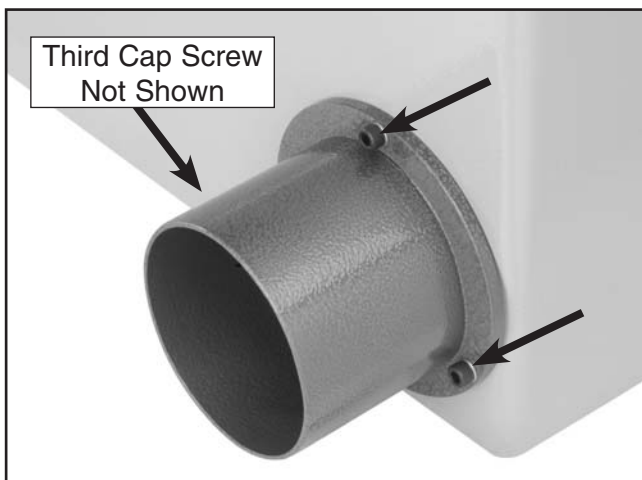

Figure 24. Dust port mounting locations.
1. Use the three cap screws and lock washers to secure the included dust port to the saw base (see **Figure 24**).